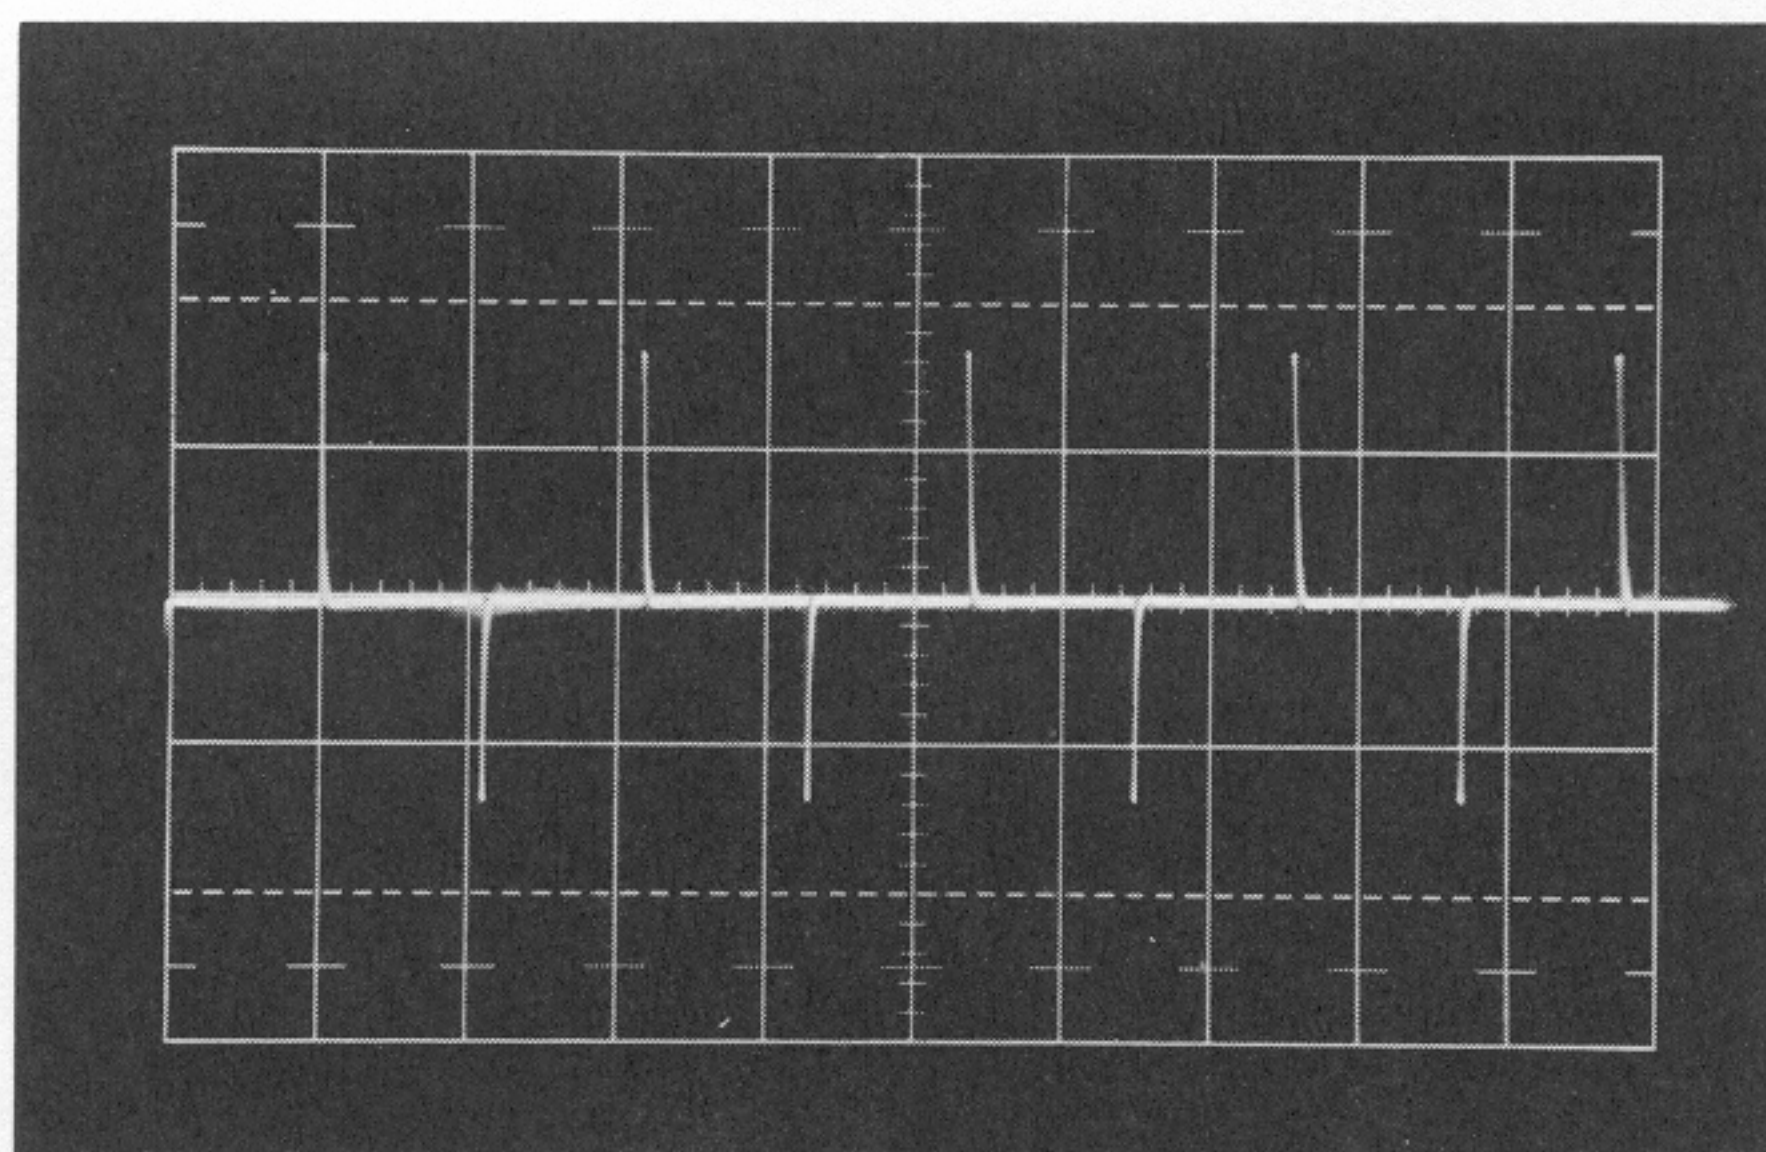

Fig. 5-17. Typical display obtained when Input Attenuators are adjusted for optimum differential balance.
- g. CHECK—For optimum differential balance according to the information given in Table 5-4. The trailing portions of the cycles must match each other (see Fig. 5-17). When